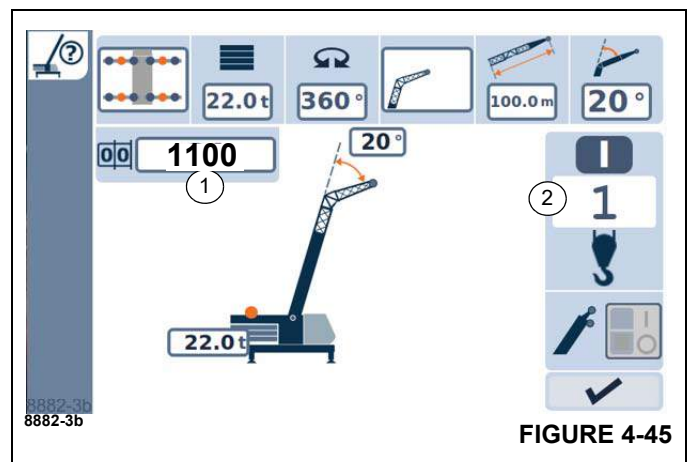

FIGURE 4-45
Display (1), (Figure 4-45) will show RCL code 1100 – the corresponding rigging mode will be displayed.